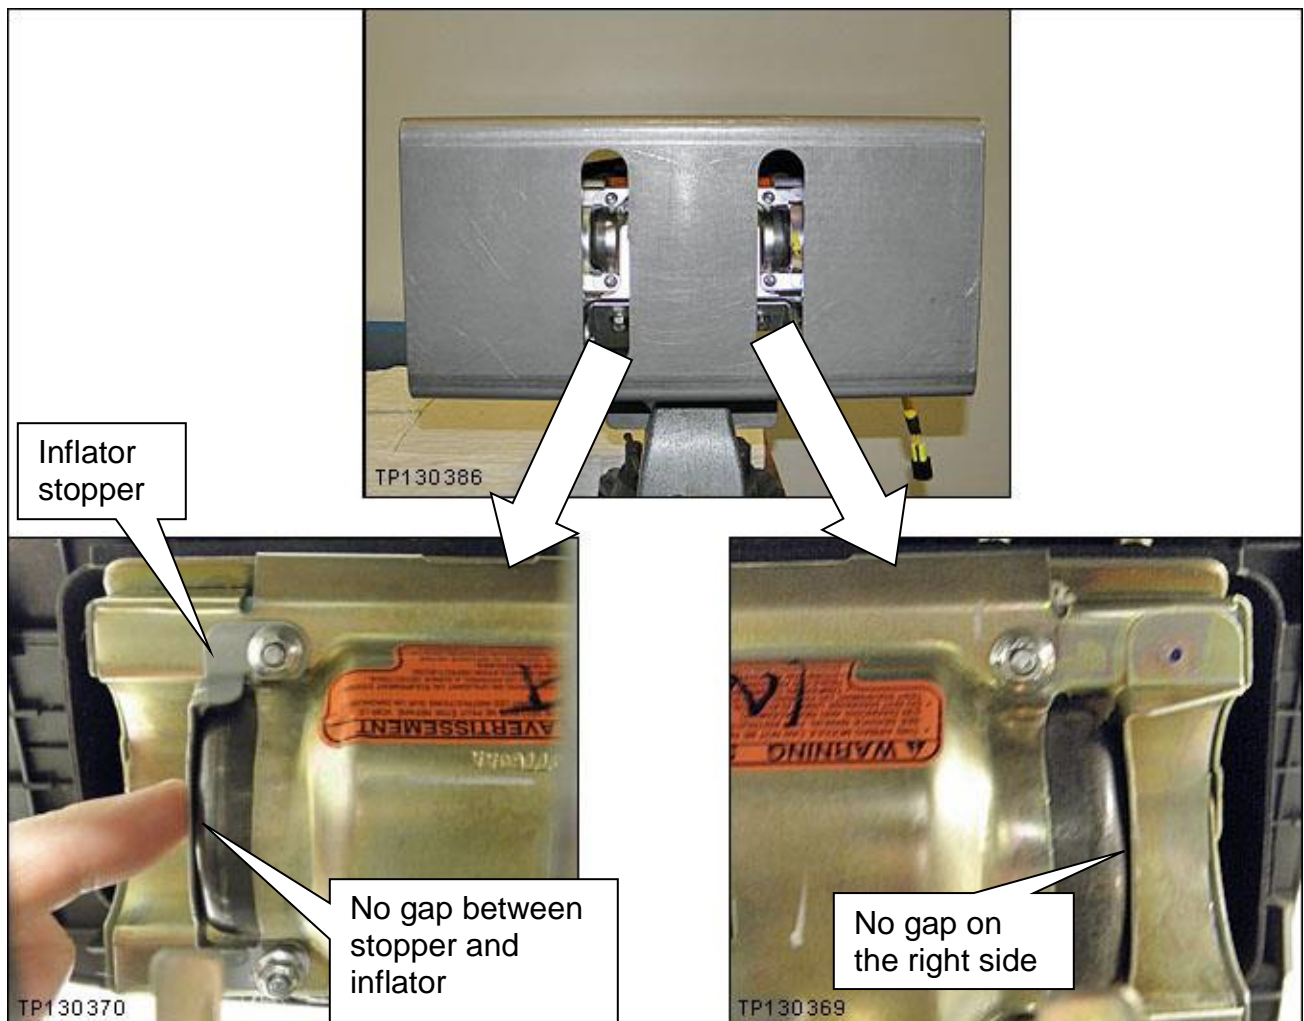

Figure P15
18. Install the inflator stopper and 4 inflator securing nuts finger tight (see Figure P15).
19. Make sure the inflator is pushed all the way into its housing – no gap on the right side (see Figure P15).
20. Make sure there is no gap between the inflator stopper and the inflator (see Figure P15).